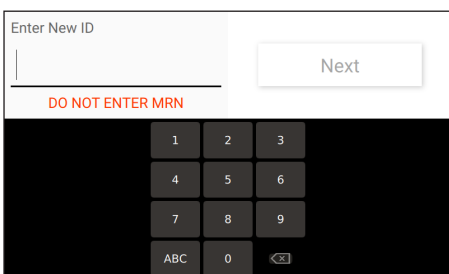

Figure 2. Patient ID entry screen
2. Enter the patient's Identifier (ID) and press Next. (Fig. 2) The patient ID refers to the patient's numeric or alphanumeric identifier associated with the patient-specific hospital encounter for that admission (i.e. CSN or FIN). This is not the patient's MRN number.